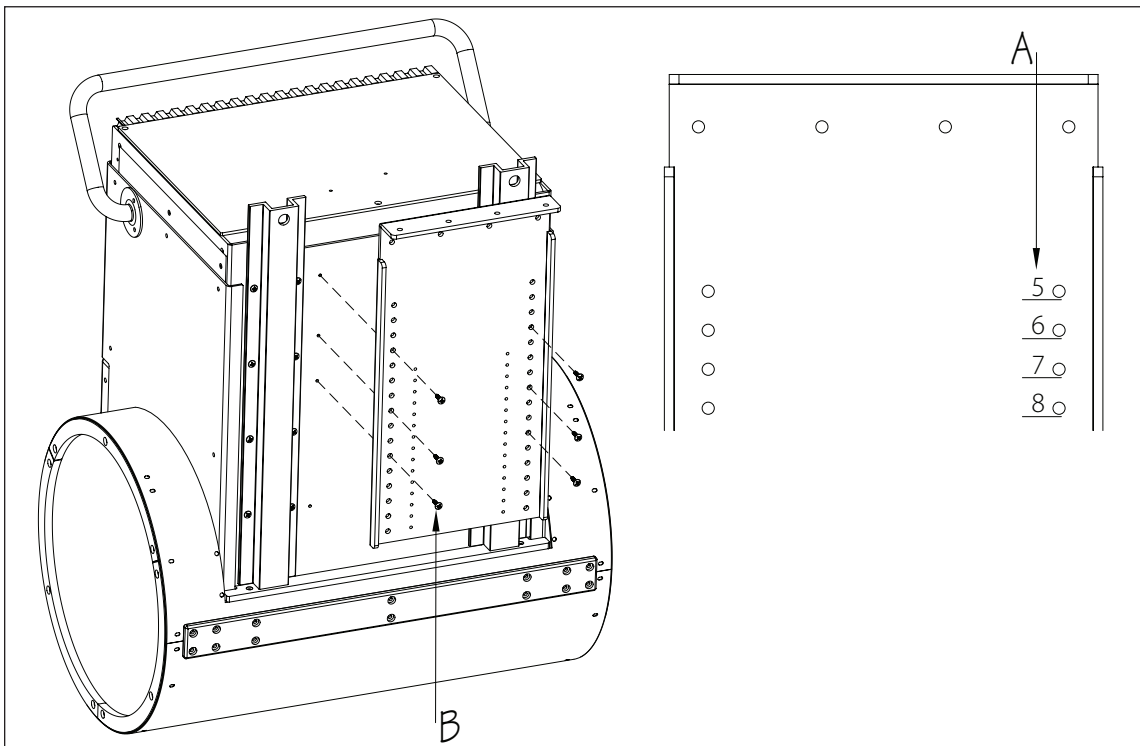

Fig. 17
- The numbers etched into the back of the Hanger Bracket (A) represent the freeboard height in inches. Carefully lay the Current Unit on its front face. There are six pre-drilled holes between the Hat Sections. Align the hole set in the Hanger Bracket, that represents your freeboard height, with the top set of holes in the back of the Current Unit. Use the Phillips Truss Head Screws (B) to secure the bracket (Fig. 17).